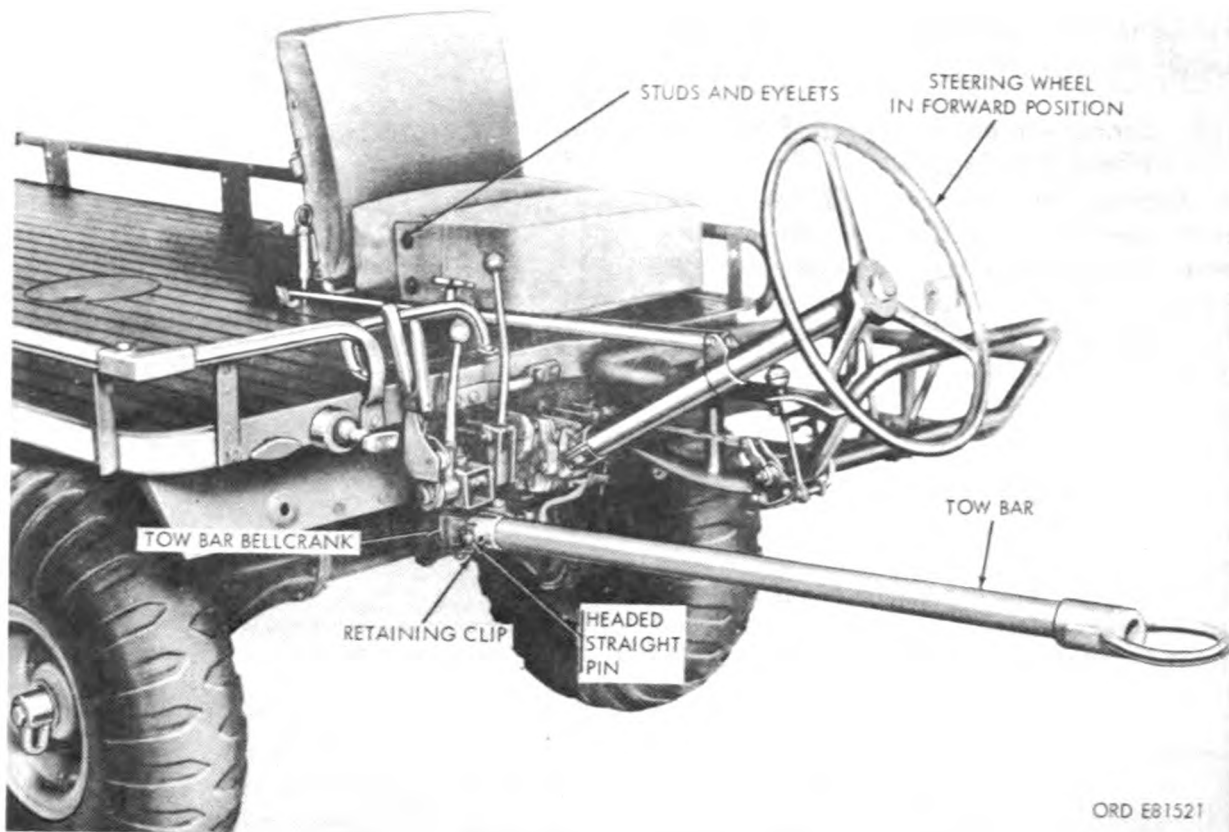
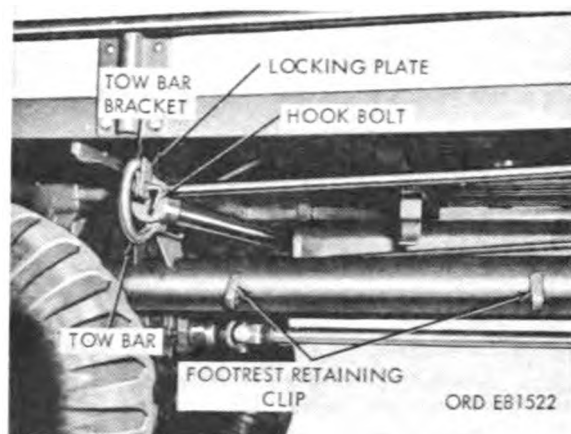
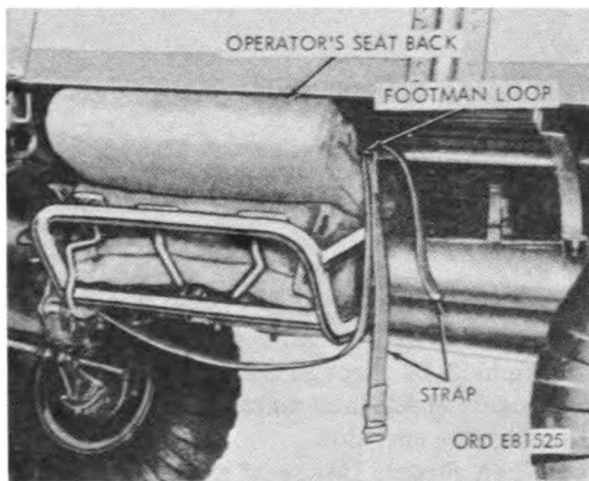
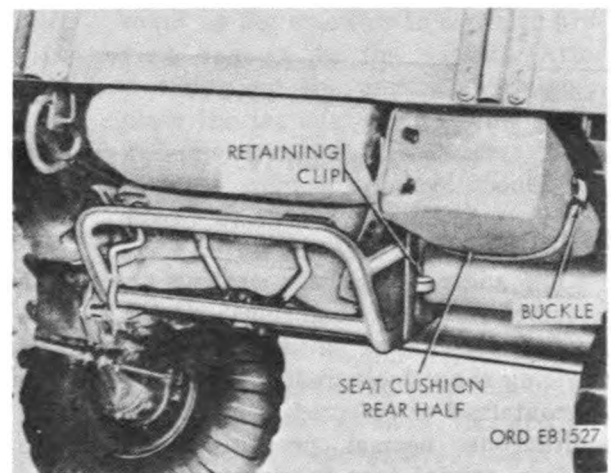

Figure 2-28. Tow bar connected.
Figure 2-29. Tow bar stowed under platform.
Figure 2-34. Partial stowage of footrest.
Figure 2-36. Securing straps and rear half of operator's seat cushion.
a. General. The tow bar (fig. 2-28) is used as a tongue when the vehicle needs towing or is used as a trailer. When not in use the tow bar is stowed beneath the platform just forward of the rear wheels (fig. 2-29). The attaching end of the tow bar is held in a tube fastened to the underside of platform and the handle end is held to a bracket by a hook bolt, plate, and cotter pin.
b. Installation. To install tow bar in towing position on tow bar bellcrank, loosen hook bolt (fig. 2-29), turn locking plate 180 degrees, and remove tow bar from beneath platform. Tighten hook bolt on bracket. Remove retaining clip from headed-straight pin (fig. 2-28) in tow bar bellcrank and remove pin. Position tow bar on tow bar ballcrank as shown. Push headed-straight pin through tow bar and bellcrank and secure with retaining clip.
c. Stowage. To stow tow bar, remove retaining clip (fig. 2-28), from headed-straight pin securing tow bar to tow bar bellcrank and remove pin and tow bar. Install pin in bellcrank and secure with retaining clip. Loosen tow bar hook bolt (fig. 2-29), and turn the locking plate until the long end is pointing down. Slide at-
(2) Stowage clips. Turn the two footrest retaining clips on the right frame tube to a vertical position (fig. 2-29). Slide footrest with front half of seat cushion and seat back over the tube between the clips (fig. 2-34). Pull out clips, turn 90 degrees and hook over the vertical tubes of the footrest (fig. 2-36).
strap securely and place loose end of strap through buckle as shown in figure 2-36.